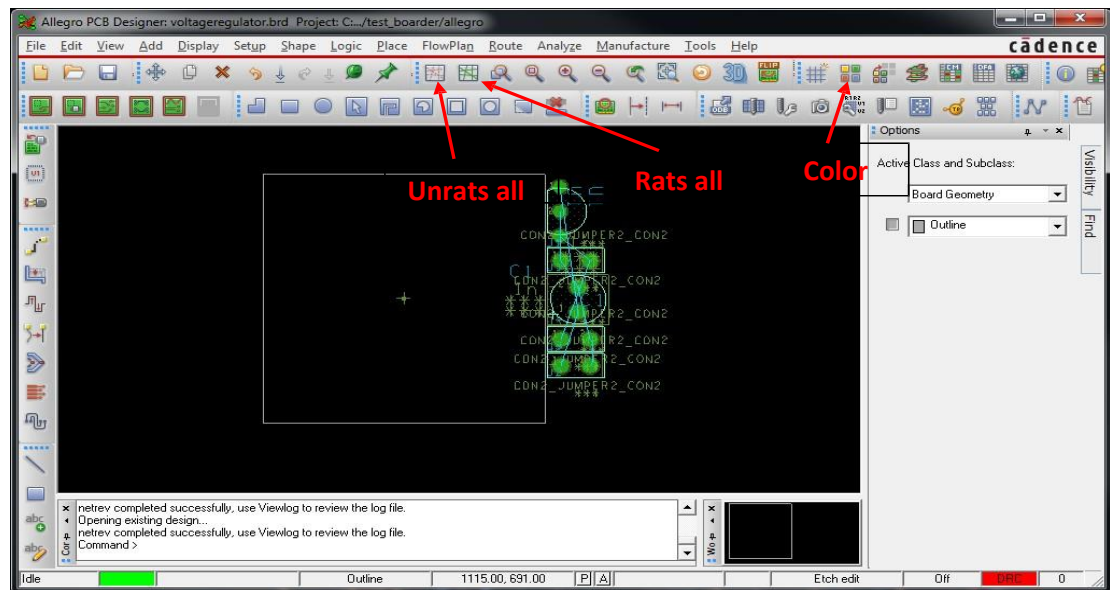

Figure 7. Design window after Quickplace.
- f. Now that we have imported the logic, we have to place the parts on our design. Select *Place->Quickplace*. The **Quickplace** pop-up window should appear. You want to “Place all components”, place them “Around package keepin” at the “right” edge, on the “top” board layer. After you verify that the appropriate selections are made, select **Place**, then select **OK**. Your window should now look something like Figure 7. Right now this looks like a jumble of stuff. What you are seeing is the board outline. The footprints of each of your parts and the logical connections between the parts. The logical connection lines between the parts are called the “rats nest” for obvious reasons. Our board only has 15 parts. Can you imagine what the “rats nest” would look like if we had 100 parts on the board. You can turn on and off the “rats nest” by selecting the “Unrats all” and “Rats all” icons.